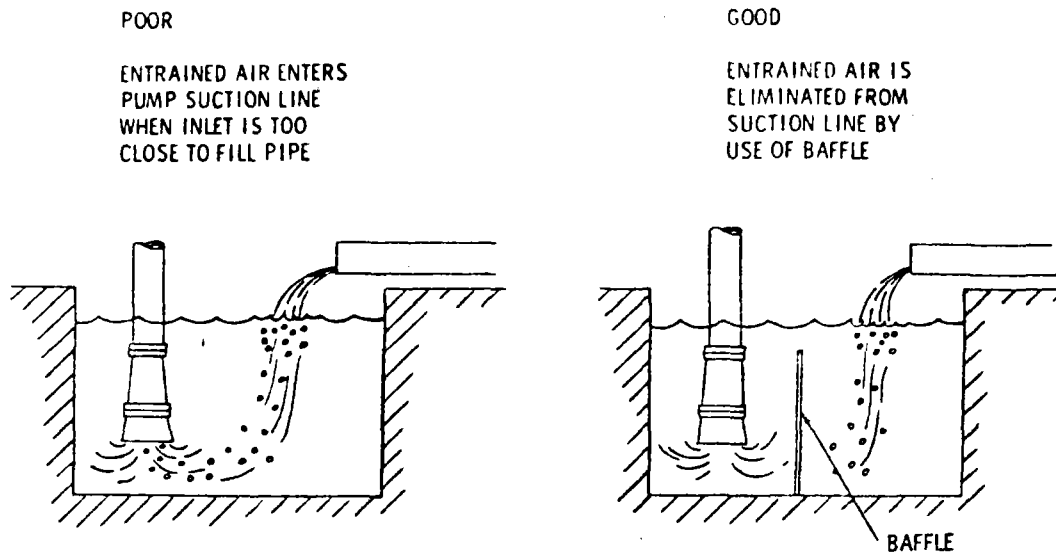

Figure 5. Eliminating entrained air caused by a fill pipe.
- (5) Do not terminate the discharge line at a level which is lower than that of the fluid being pumped unless a flow restricter is used in the line. If a flow restricter is not used, a syphoning action could result, causing damage to the pump.
a. Liquid inflow into a sump should never discharge near the suction inlet of the pump. The flow from the fill pipe carries air down into the sump. Air will reduce pumping efficiency if it enters the suction line. If it is necessary to have the fill pipe and the suction inlet close together, install a baffle in the sump around the spill area to allow entrained air to escape before the liquid is drawn into the suction line (see Figure 5).